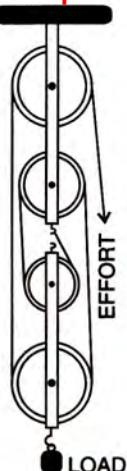

Fig. 3.34
- Fig. 3.34 shows a block and tackle system of pulleys used to lift a load.